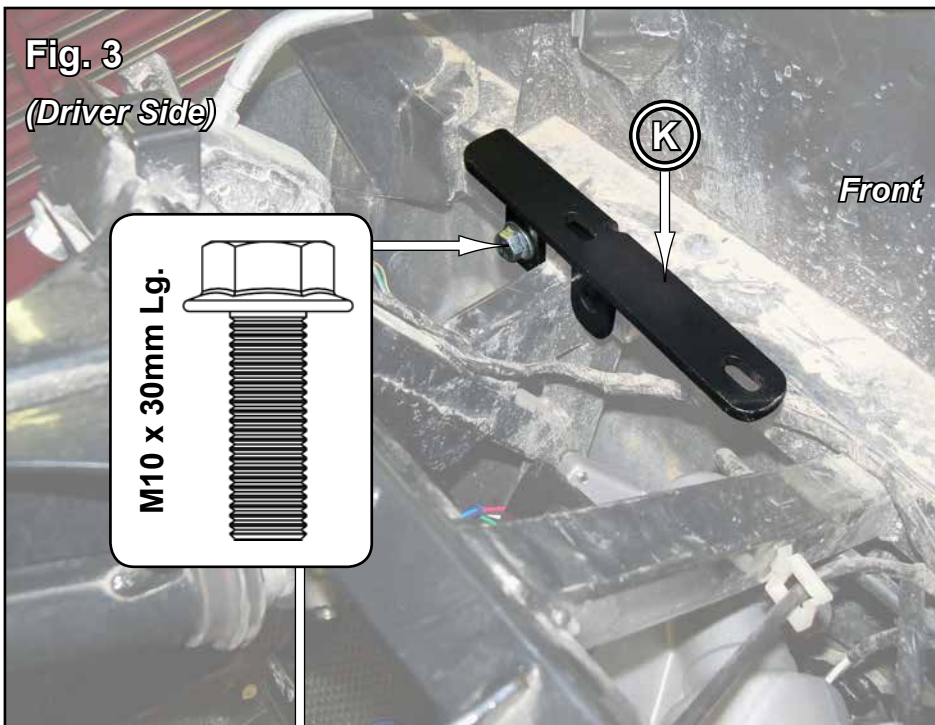

Fig. 3
4. Loosen U-Joint hardware from Steering Shaft and remove (2) Bolts from Frame; set Steering Column aside. See Fig. 3.
3. Install ECU Mount (K) to Frame with M10-1.25 x 30mm Lg. FHCS. See Fig. 3.